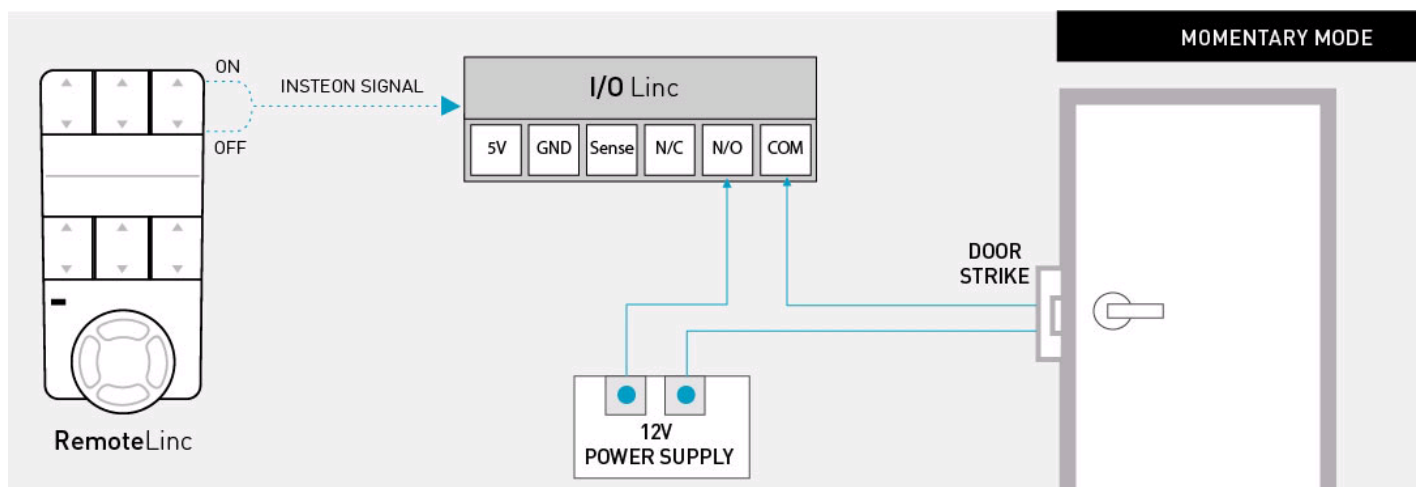

Figure 2
- 9) Connect the door strike and power supply to I/O Linc (see Figure 2).